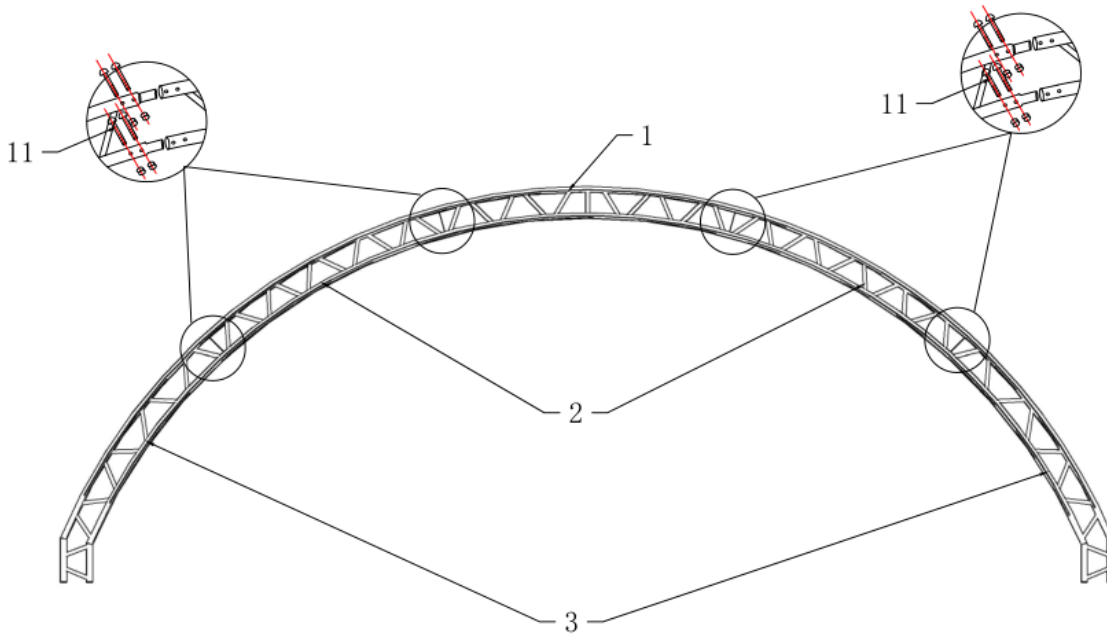

Figure 3
1. As Figure 3 shown to connect Top bent tube, Middle bent tube, Sidewall bent tube by using Bolt 8*80, which makes one group of arches.